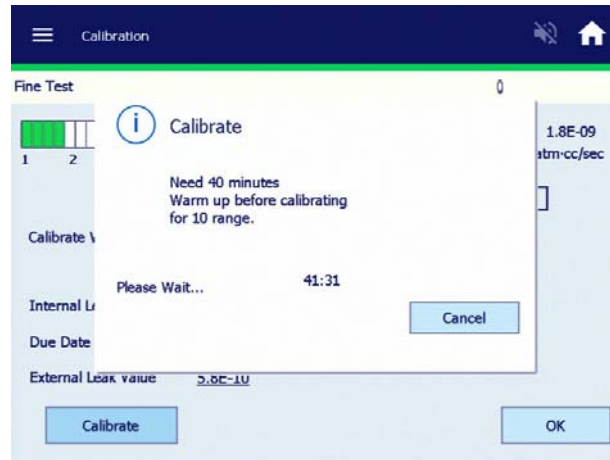

Figure 4-3 Helium Background Timer
- ❑ Background is changing, indicating the system is still pumping away background helium, a countdown timer appears (Figure 4-3). The system monitors the helium background and shows the time until the calibration begins. Should you prefer not to wait, a *Cancel* button permits the calibration request to be canceled.